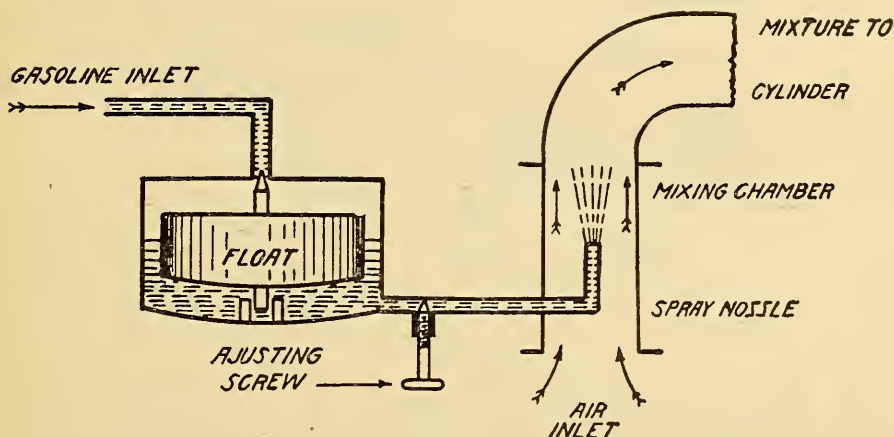

Fig. 1
12. This needle valve is called the float valve, it being connected to and controlled by the float. The float valve mechanism is adjusted so that when the engine is not running the gasoline level will not quite reach the top of the spray nozzle or jet, but may be drawn out by the suction of the passing air current when the engine is running. In Fig. 1 is shown a simple diagram of the carburetor.
17. The simple form of carburetor shown in Fig. 1 is satisfactory only for an engine which runs at a steady and constant speed, for then the rate of the air through it does not change, and the gasoline may be adjusted to correspond. The speed of an automobile engine is not steady, however, and the rate of flow of the air through the carburetor changes with the speed of the engine, increasing as the engine speed increases and decreasing as the engine speed decreases.
13. Explain the operation of the carburetor shown in Fig. 1.